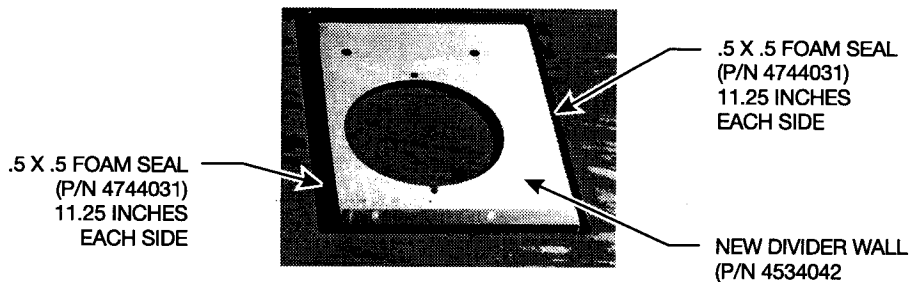

Figure 19
4. Apply 11.25 inches of .5 x .5 foam seal (4744031) to each of the two sides of the new divider wall (4534042). **See Figure 19.**